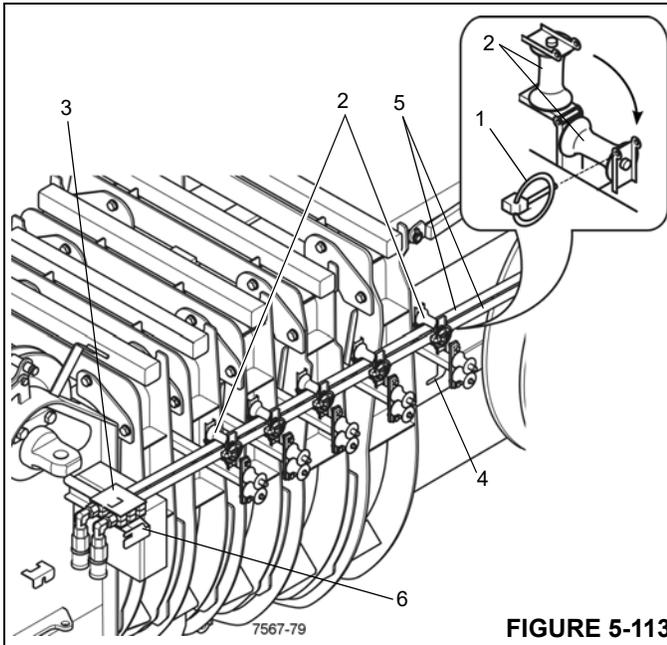

FIGURE 5-113
2. Remove the hinged pins (1), (Figure 5-113) and fold up the guide sheaves (2).
3. Remove the strain relief (3) from its main boom mounting bracket (4) and pull the hydraulic hoses (5) towards the boom nose.
4. Hook the strain relief onto the boom nose mounting bracket (6).
5. Fold down the guide sheaves (2) and secure them with the hinged pins (1).